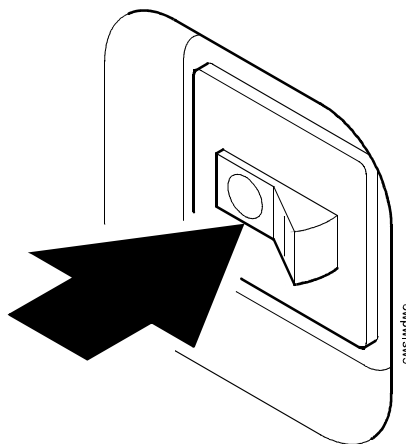

Figure 20. Power Switch
1. Verify that the voltage source at the printer site conforms to the requirements specified on page 19. Make sure that the printer power switch is set to Off. (See Figure 20.)